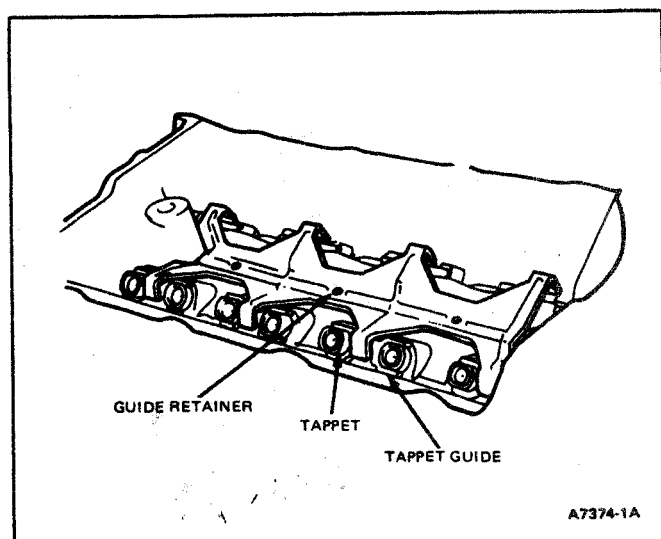

FIG. 57 Tappet Removal
16. Remove tappet guide retainer (Fig. 57).